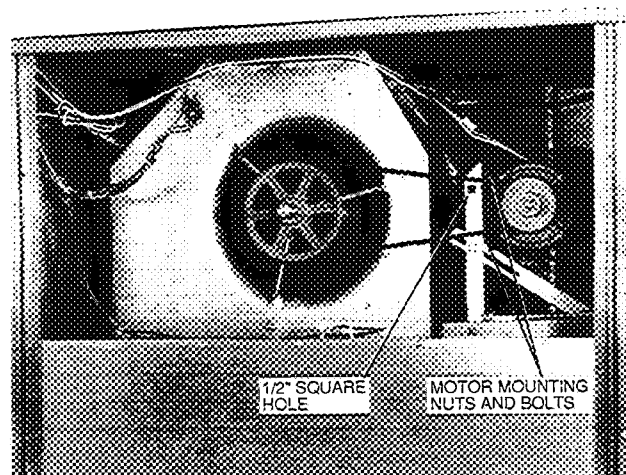

Fig. 12 — Belt-Drive Motor Mounting
2. Loosen belt by loosening fan motor mounting nuts. See Fig. 12.